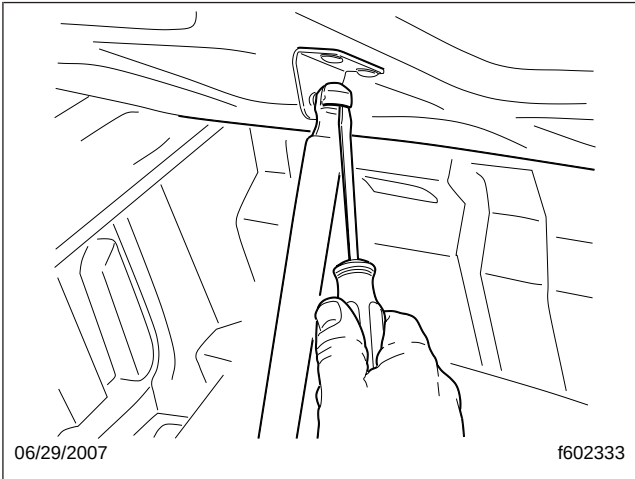

Fig. 2, Removing Strut Retaining Clip
6. Tilt the bunk up. While supporting the bunk, use a flat-tip screwdriver to unclip the retainer from the upper ball-joint of each support strut; see **Fig. 2**. Pop the struts loose from the ball studs on the underside of the bunk.